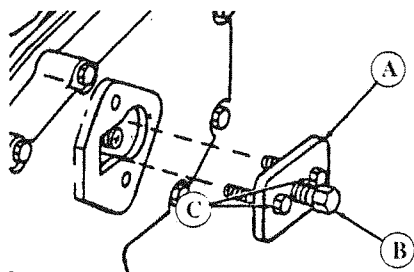

Figure 16.
6. Attach JDG670A Drive Gear Puller (Fig. 16,A) to injection pump drive gear as shown.
7. Evenly tighten the two 6mm, Grade 12.9 screws (threaded in drive gear) and snugly tighten center forcing screw (Fig. 16,B) against end of pump shaft.
JDG670A puller (Fig. 16,A) and screws from drive gear.